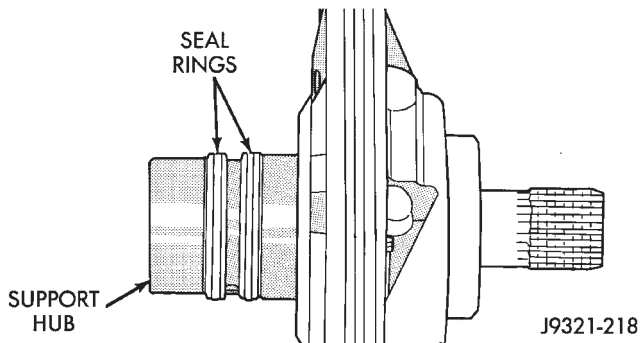

Fig. 128 Hub Seal Ring Position
(6) Install new thrust washer on hub of reaction shaft support. Lubricate washer with transmission fluid or petroleum jelly.
(7) If reaction shaft seal rings are being replaced, install new seal rings on support hub (Fig. 128). Lubricate seal rings with transmission fluid or petroleum jelly after installation. Squeeze each ring until ring ends are securely hooked together.